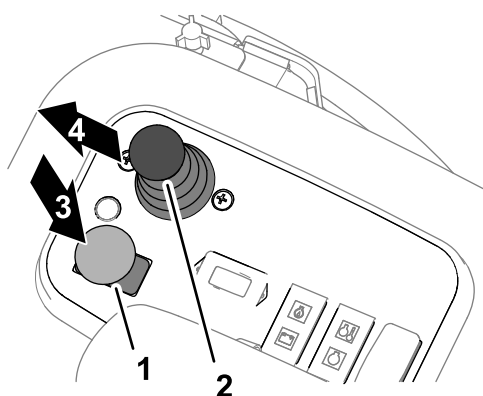

Figure 35
3. Move the cutting unit drive switch to DISENGAGE (Figure 35).
5. Use the lower mow/raise control lever to lower the cutting units (Figure 35).